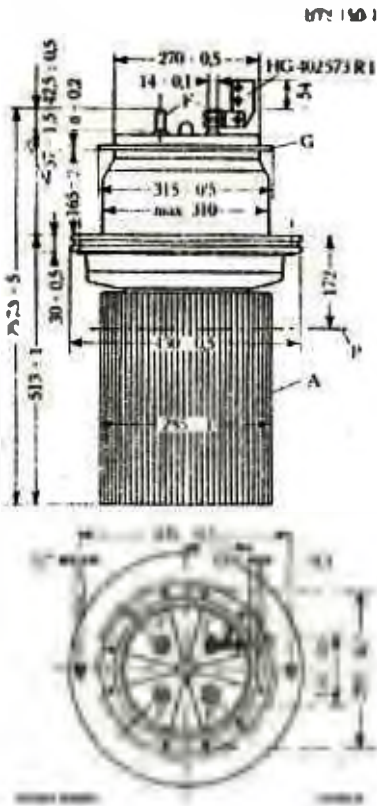

Fig. 6 Vapour cooled tube type BTS 150-2
The distinguishing feature of the vapour-cooled tube BTS 150-2 is its large copper anode radiator of special shape, allowing operation at more than twice the maximum anode dissipation of the conventional water cooling (fig. 6). Cooling of the tube is effected by allowing water to evaporate under the influence of the heat generated at the external anode. The water is in a closed circuit, which normally does not require any pump or rotating mechanism. The quantity and consumption of the cooling medium is extremely small. The circulation of the water, and thus the dissipation of the heat automatically adapts itself to the amount of heat which has to be dissipated. For this reason and on account of the high heat transfer coefficient, a higher Pa max. can be allowed than with other cooling systems. Simple safety devices are quite sufficient. Further indications see Brown Boveri Electron Tube Handbook, chapter 2.
- 12 - Water level required, held constant ("P" see also Fig. 6)